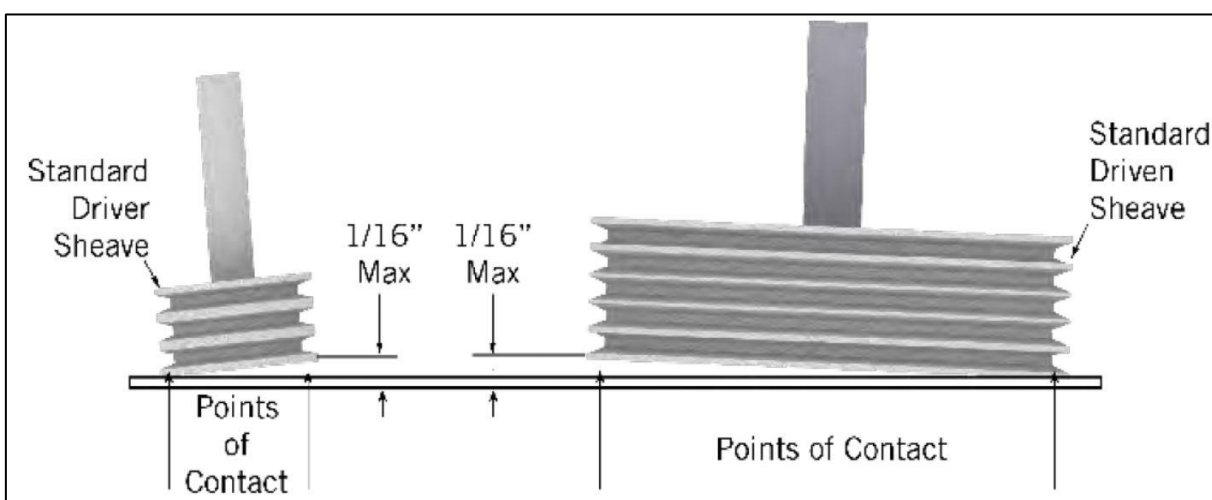

Figure 8. Drive Alignment
- Place a straight edge across the driver and the driven sheaves as shown in **Figure 8**.
- The straight edge should contact all four points as shown in **Figure 8** indicating that the drives are properly aligned.